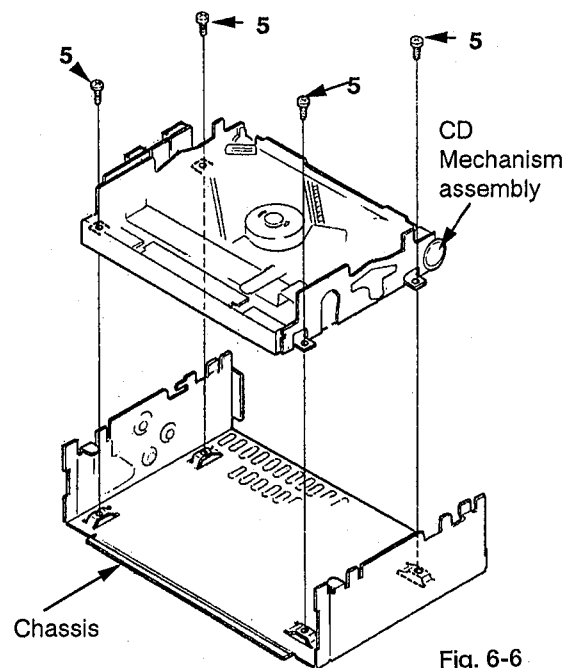

Fig. 6-6
■ **Removal of CD mechanism assembly** (Fig. 6-6)